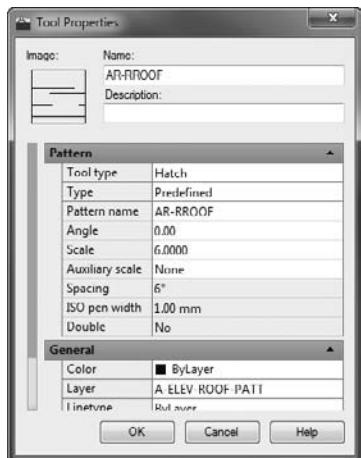

FIGURE 11.31 The Tool Properties dialog box for the hatch pattern
5. Place the cursor on the new swatch of AR-RROOF, right-click, and choose Properties. The Tool Properties dialog box opens (see Figure 11.31).